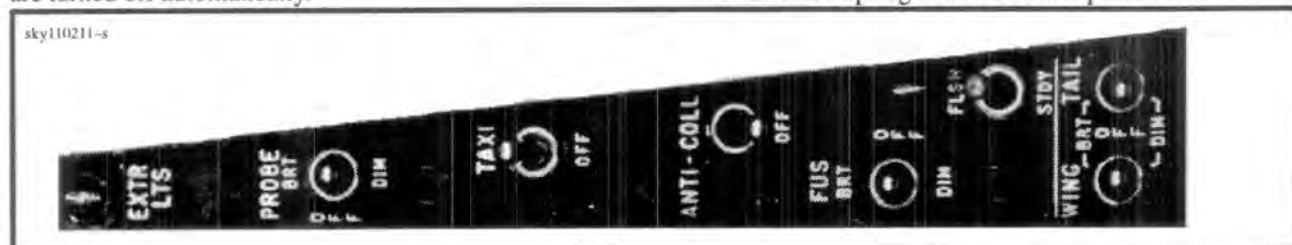

Figure 1-14 Ext Lighting Control Panel
1.86 The exterior lights are controlled by seven switches on the Exterior Lighting Control Panel (fwd wedge panel) shown in Figure 1-14. In both the A-4 and TA-4 this panel is located outboard of the right console.